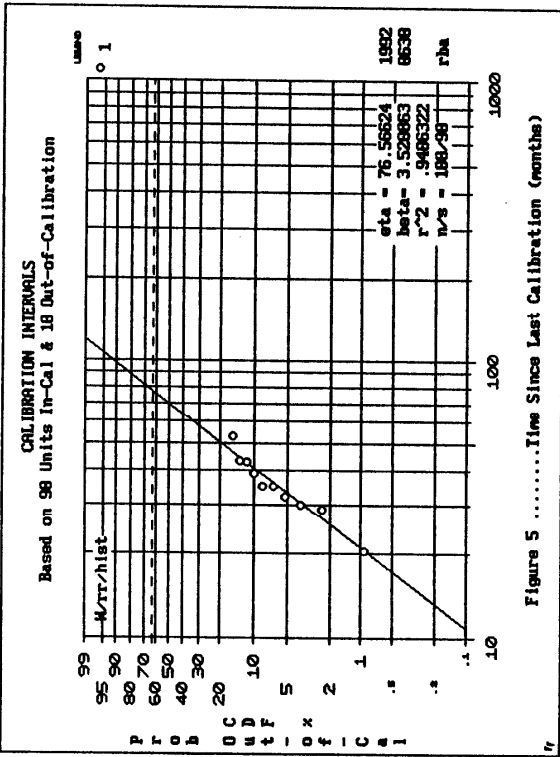

Figure 5 .....Time Since Last Calibration (months)
**Cost Effective Calibration Intervals:** In the past calibrations were done at fixed intervals, perhaps monthly or quarterly. Some instrumentation is much more stable than others. Some instrumentation need recalibration daily, and other types, yearly or longer. If instrumentation that is out-of-calibration is identified when returned to the laboratory, a Weibull plot is ideal for determining optimal calibration intervals. We define failure as out-of-calibration and suspensions as in-calibration. For critical instrumentation, the B1 life is used as the calibration interval. (See Figure 5) This interval, about 21 months, would provide that 99% of the instrumentation in service is in-calibration. For other instrumentation, B5 (33 months) or even B10 (40 months) may be used.